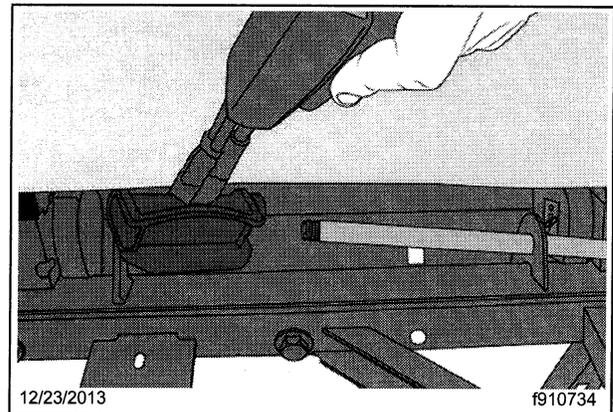

Fig. 7, Removing the Sliding Buckles
2. Pull the shaft end with the removed nut through the support bracket hole, then slide the plastic sleeve with the buckles off the shaft. See **Fig. 7**.